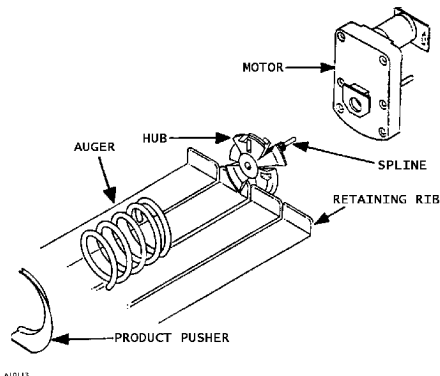

Figure 3. Motor & Auger
1. Remove the motor cover. See Figure 3.